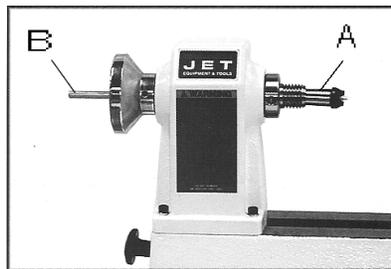

Fig 8
The spur drive centre (A, Fig 8) locks into the spindle taper and can be removed with the knockout rod (B).